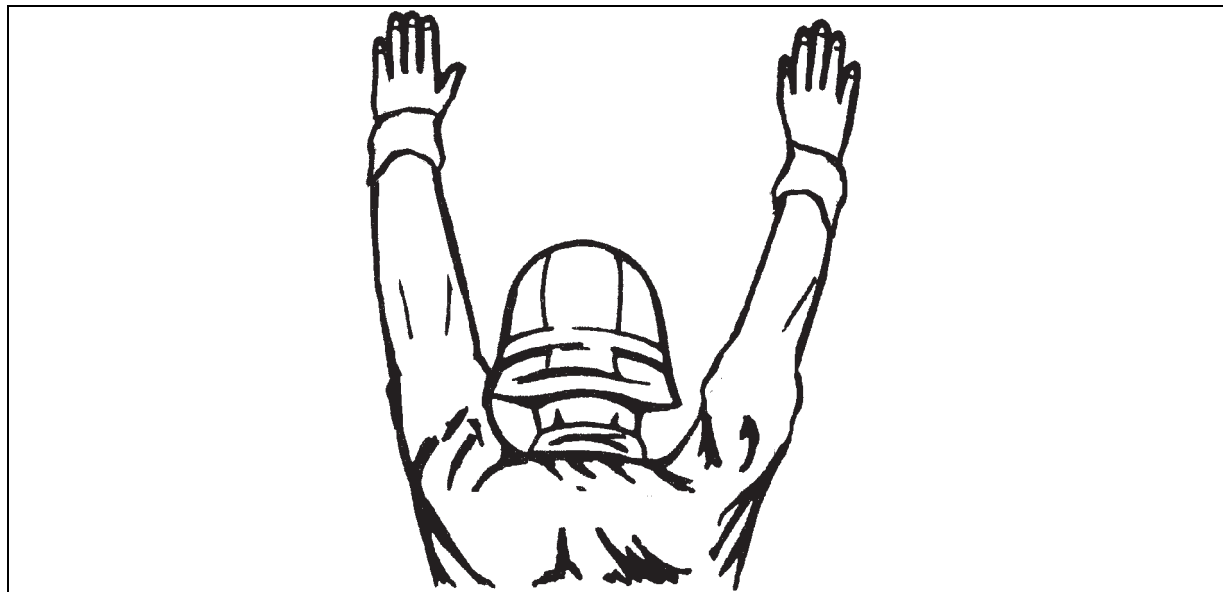

Figure 5-5. Assume Guidance
- The signalman identifies himself and the load for the pilot by holding up both arms, as in figure 5-5.